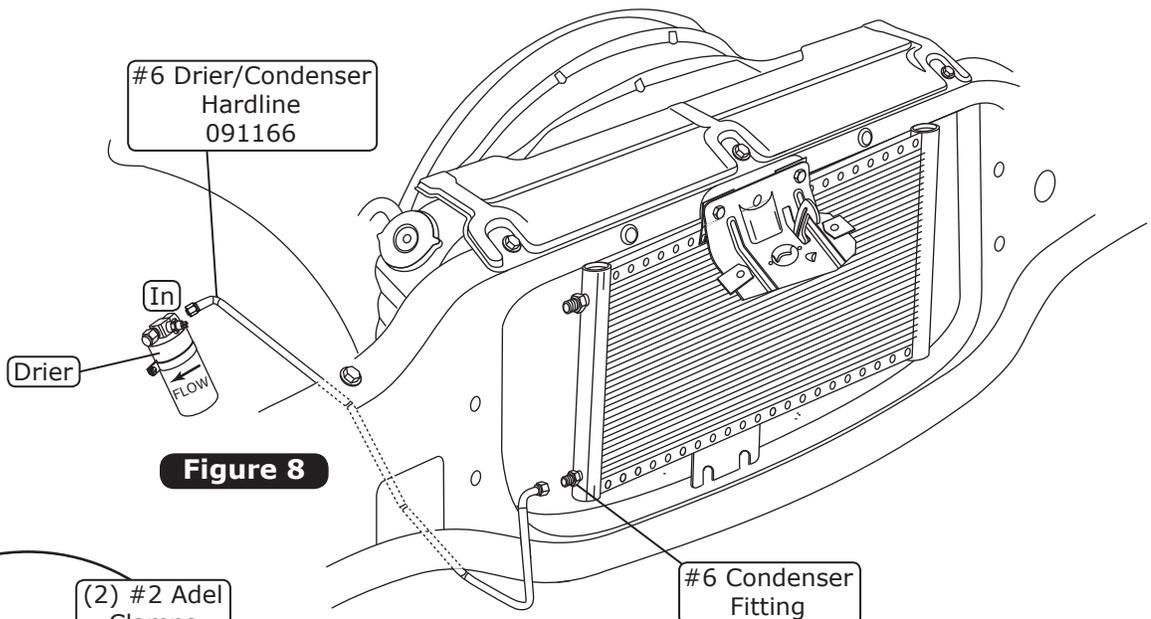

Figure 8
2. Install the #6 drier/condenser hardline onto the #6 condenser fitting, and then onto the drier (See Figure 8, below). Tighten fittings as shown in Figure 7, Page 9.